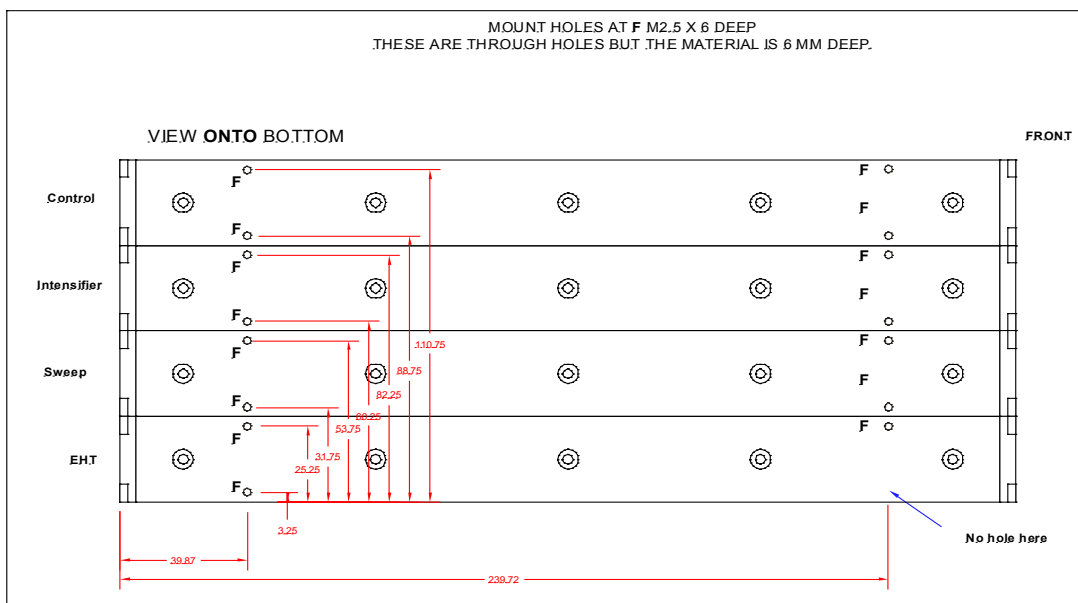
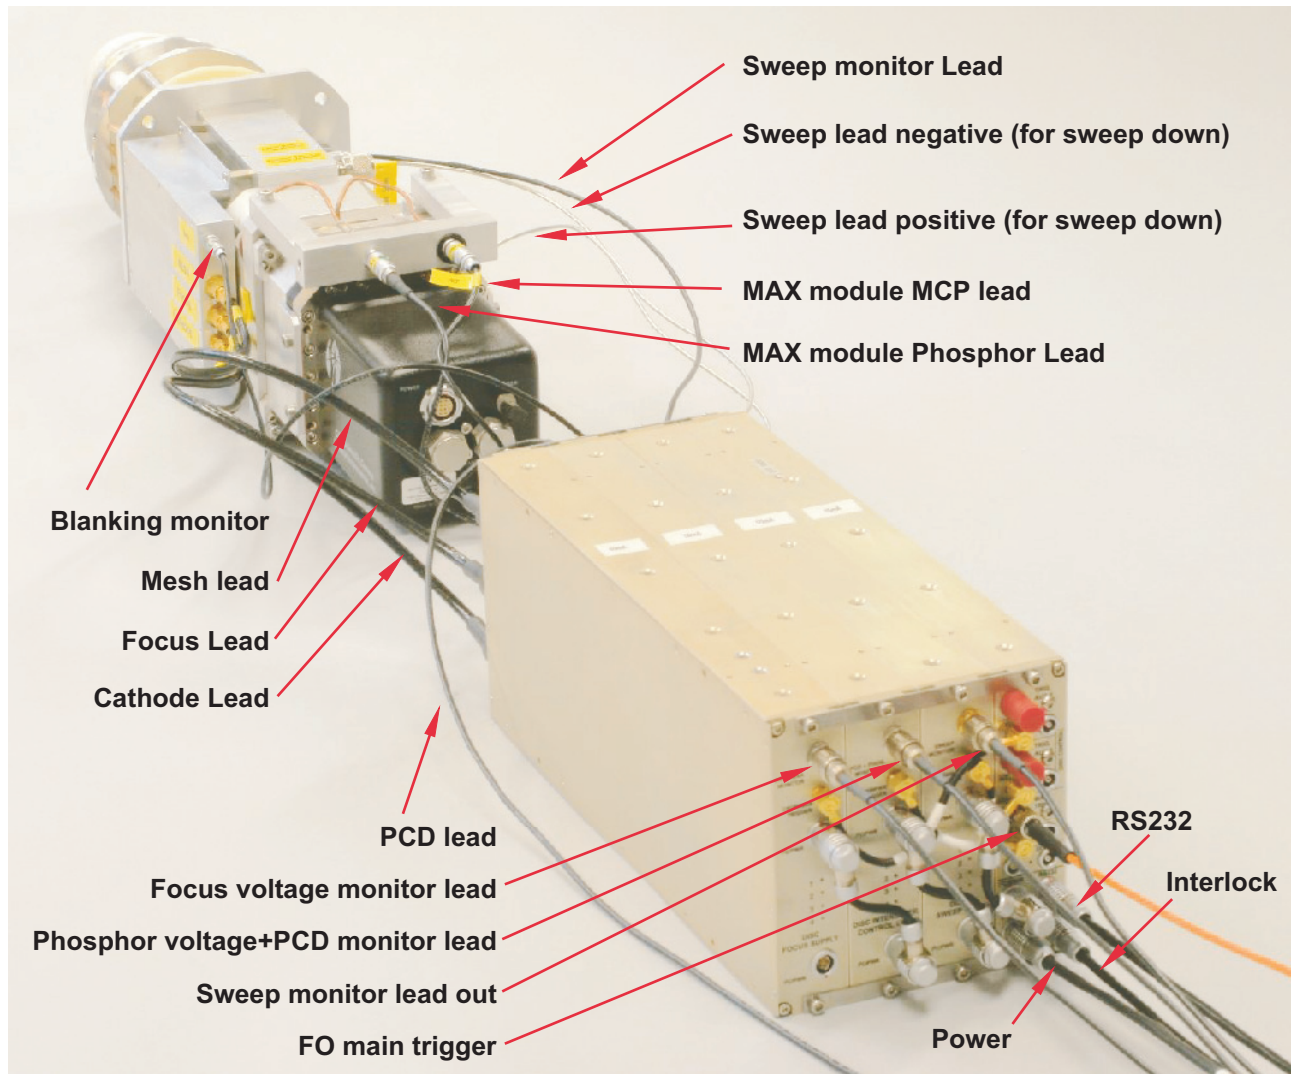

Figure 3 The mounting holes on the bottom of the unit. Do not screw in further than 6mm.
Figure 5 The cabling of the system
The electronics package consists of 4 modules strapped together, see Figure 5, a control module (MCU), a sweep (SW) module, an intensifier (INT) module and a high voltage (Focus) module. The modular structure allows the easy replacement of one and the ability to screen fully each part of the system to ensure that cross talk is minimised. Mounting holes on the bottom of each module are provided, see Figure 3.